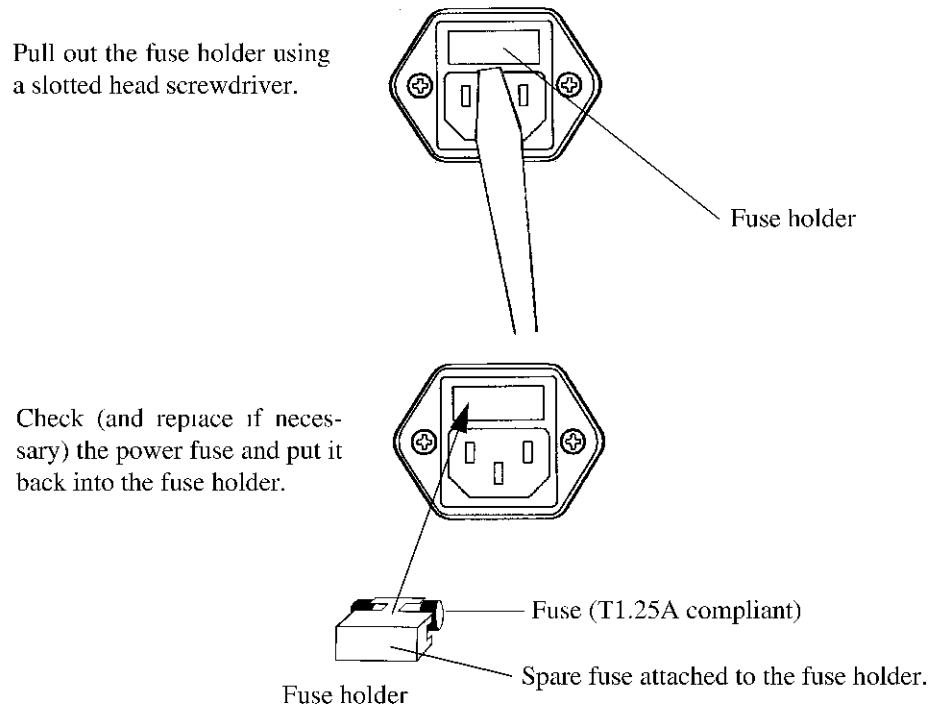

Figure 1-2 Replacing the Power Fuse
3. Remove the fuse holder on the rear panel (See Figure 1-2).